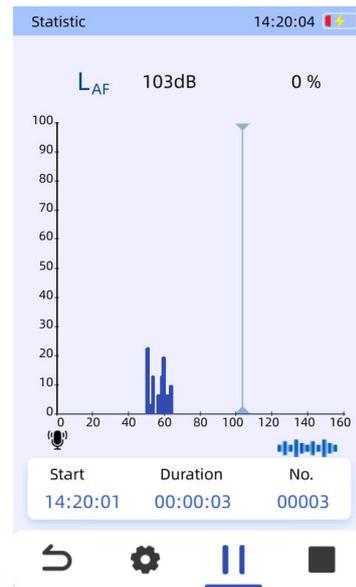

Fig 6.24 Sound Pressure Level Distribution
- a. Manual Mode: The user manually starts and stops the measurement from the main interface button area. Figure 6.24 shows that in manual mode, the testing is entirely controlled by user actions, making any time settings in the testing mode configuration ineffective and uneditable.